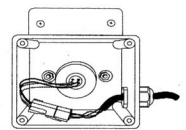

FIGURE 2
2. Once the UV bulb has cooled off remove the CLEARARRAY System enclosure cover (9) and gasket (8) by removing the four screws (10). This will expose the UV bulb and connections, Figure 2.